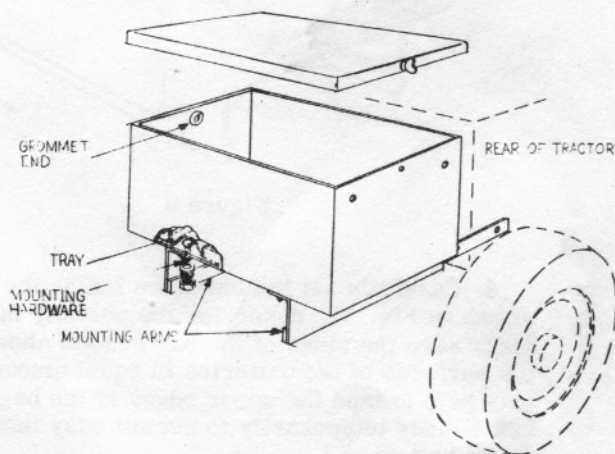

Figure 8
2. Insert the support brackets into the frame openings at the rear of the tractor so their open sides face each other and their horizontal surfaces are on the top. See Fig. 8.